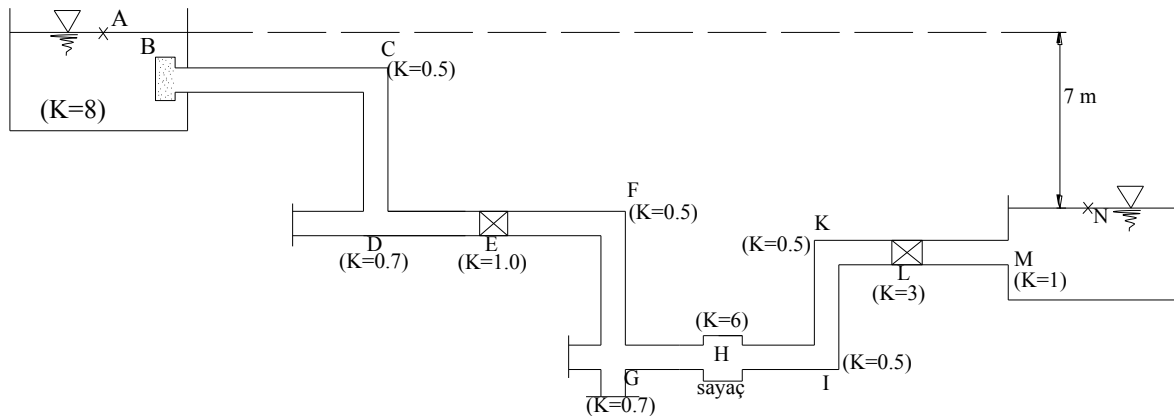

Figure 7.3
**Problem 7.3:** Find the discharge of the pipe system shown in Figure 7.3 and if the diameter of the system is converted into  $\phi 150$  mm find the length of the pipe of the system.